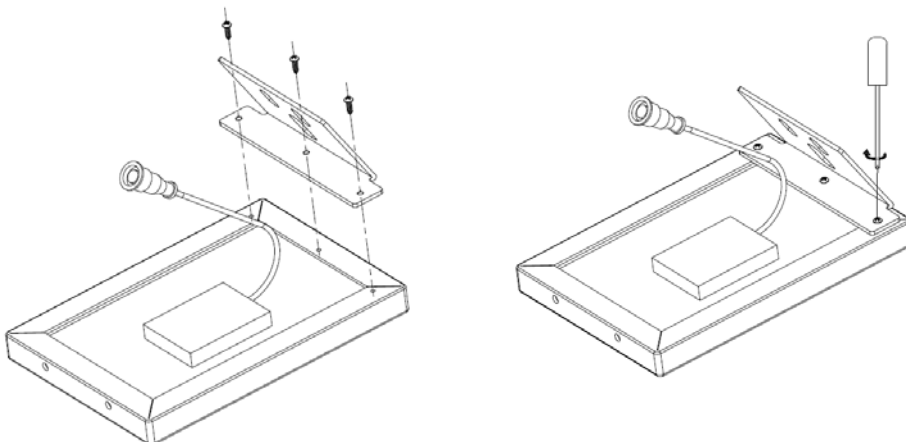

Figure 17
- a) Use a screw driver to assemble the metal holder on back of solar panel as shown in Figure 17.